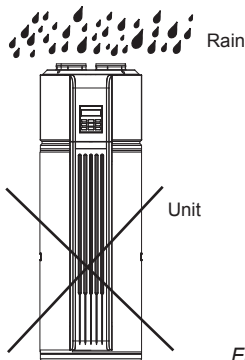

Fig. 3-6
- In case of rain entering to internal components of the unit, the component might be damaged or causing physical danger. (Fig. 3-6)